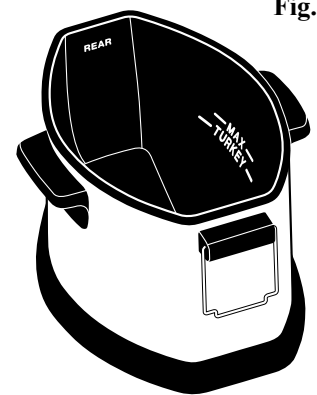

Fig. 31
Step 2 Fill the removable pot with vegetable oil up to the TURKEY line (Fig. 31). This will require 1 gallon (4 quarts) of oil. (See page 7 for recommended types of oil.) Although only 1 gallon of oil is needed to fry a turkey, if desired, the removable pot can be filled to the MAX line.
- Step 1 Fill the removable pot with vegetable oil up to the MAX line (Fig. 31, page 14). You will need 1.3 gallons (about 5¼ quarts) of vegetable oil. The amount of oil must always be between the TURKEY and MAX lines. Never exceed the MAX line.